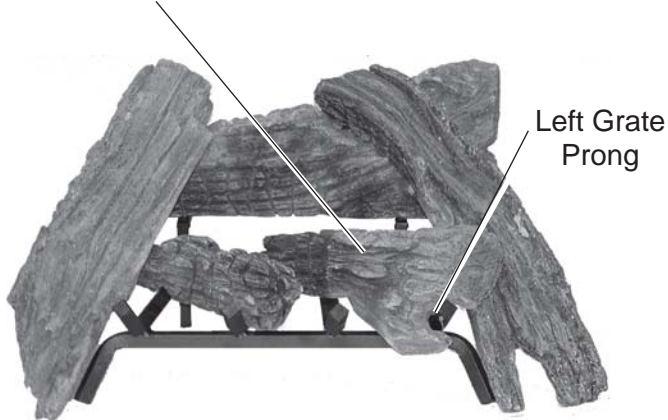

Figure 72 - Resting Top Right Log (#4) on Bottom Left Log
5. Rest right end of Top Right Log #4 on bottom right log. See Figure 72.